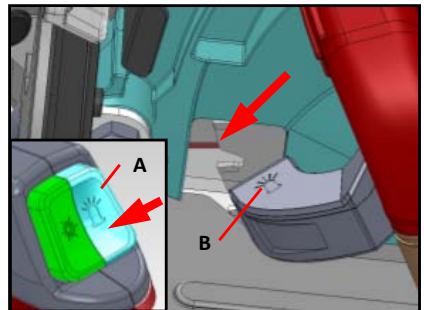

Fig.14
- Push the LED button(A) to start the LED light, push again to turn off, as Fig.14